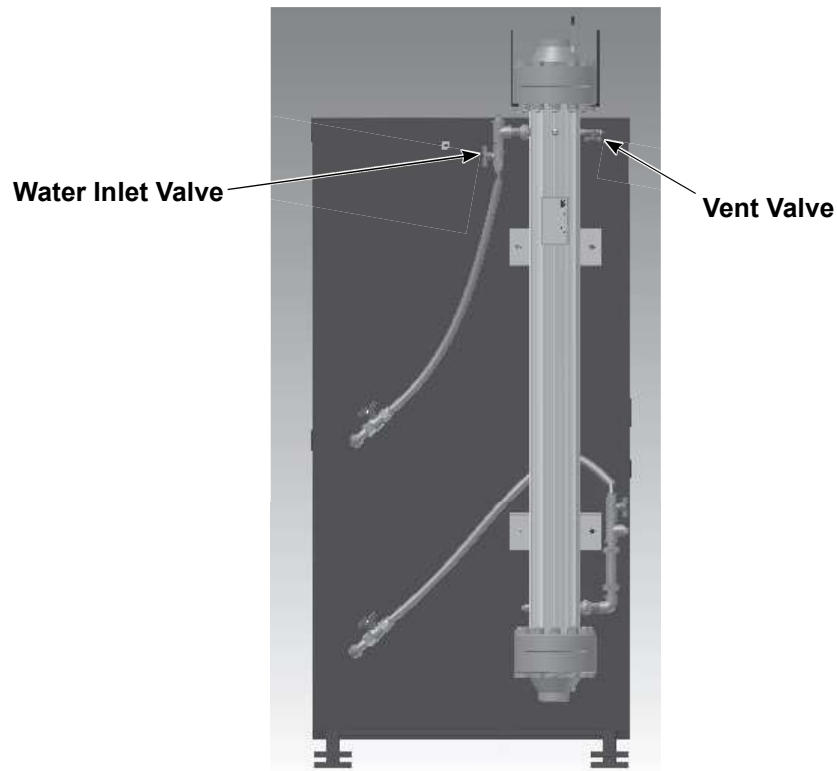

Figure 13 Inlet Valves on Heat Exchanger
See Figure 13.
2. See Figure 13. Shut the  $\frac{3}{4}$  in. water inlet valve at top of the heat exchanger.